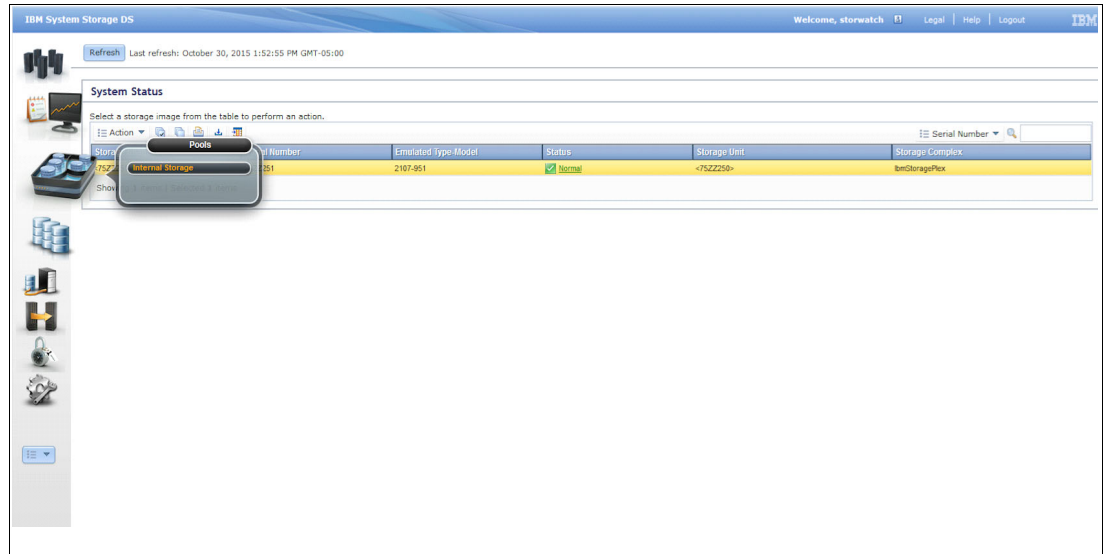

Figure 6-6 Internal Storage menu
1. From main menu, we select **Pools** → **Internal Storage**. The Internal storage menu displays, as shown in Figure 6-6.